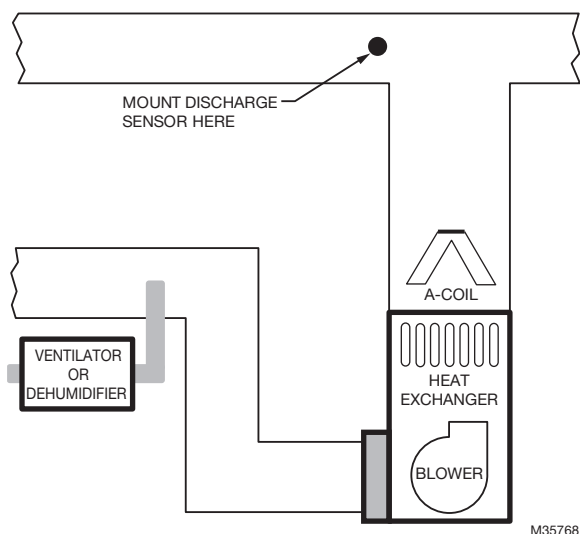

Fig. 3.
Refer to the guidelines below and Fig. 3–7 for mounting locations of the Discharge Air Temperature Sensor.
1. Mount the Discharge Air Temperature Sensor on the supply duct in a location where the air is mixed well. Mount the Discharge Air Temperature Sensor out of sight of the A-Coil/Heat Exchanger when possible. See Fig. 3.
1. Install the Discharge Air Temperature Sensor on the duct in a location where the air is mixed well. See Fig. 3–7.